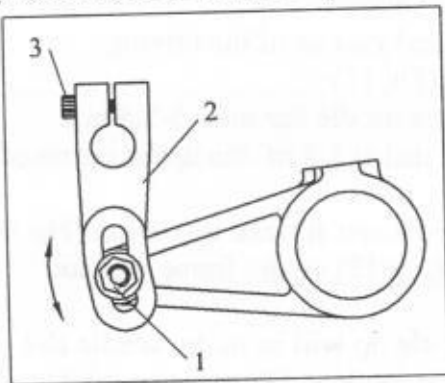

Fig 14
- Loosen the nut 1, move it upward in the buttonhole to increase the presser foot jump. And vice-versa. (Fig 14)